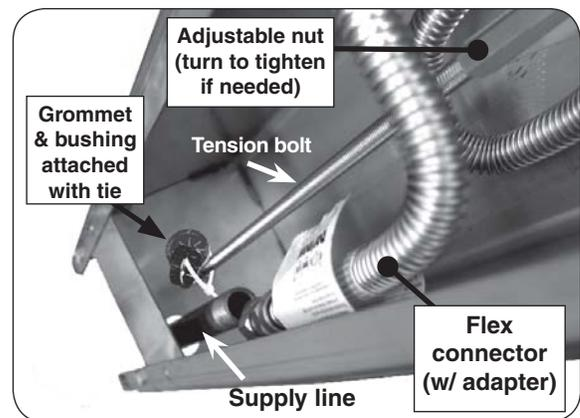

Fig. 14-3 Post interior detail
2. Verify that the gas supply line fits through the gas line clearance hole in the bottom of the post (see Fig. 14-3). The clearance hole is the larger of the two holes in the bottom of the post and is off center.